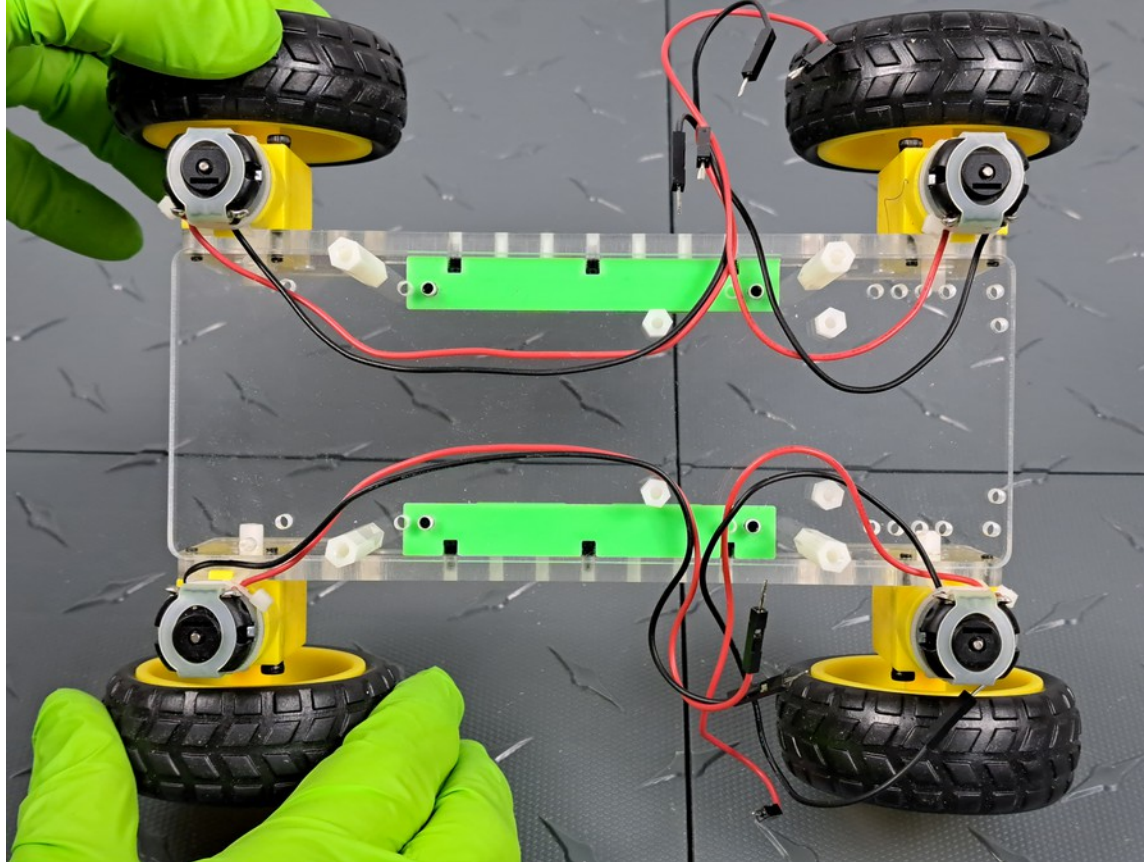

Figure 3 – Suggested routing of motor wires.
- 3. Before installing the new Motor Driver PCB, route the motor wires as shown in figure 3 above.**